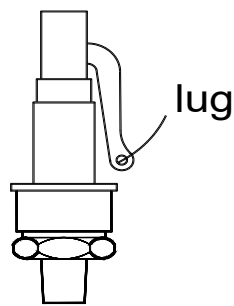

Fig 2
- An ordinary lift safety valve connected to the jacket is installed at the top of the sterilizer. It cannot open to release overpressure steam until the steam in jacket overpasses set pressure of safety valve. When steam pressure falls to the normal value, it automatically closes. The set pressure for safety valve is  $0.165\text{ MPa} \sim 0.17\text{ MPa}$  (See Fig2)